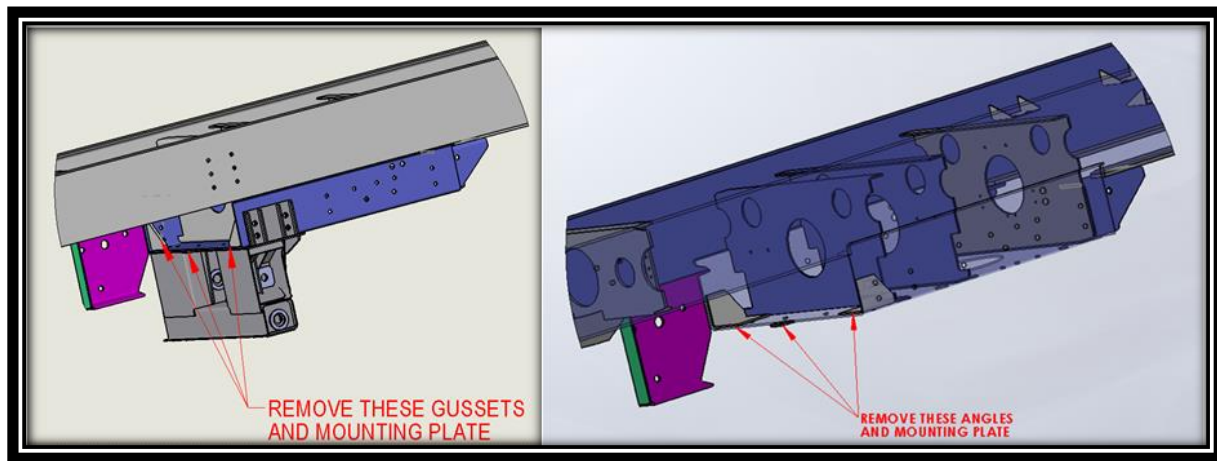

FIG. 3-1
1. Remove and properly dispose of gussets or angles and mounting plate shown below. Grind area flush, prime & paint. Refer to FIG. 3-1.